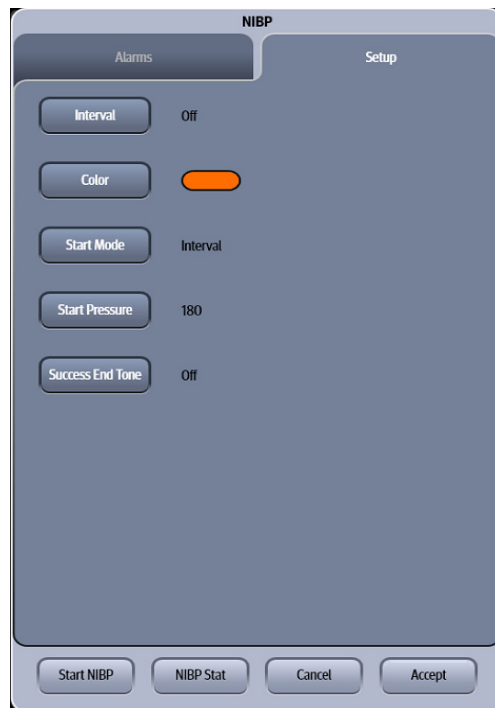

FIGURE 14-3 Example NIBP Dialog (Setup Tab)
2. Select the **Setup** tab (as shown in FIGURE 14-3).